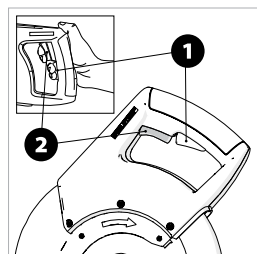

Fig. 22
SWITCHING ON & OFF (USA MODEL ONLY) (Fig. 22)
To start the machine, first push the lock-off button for the On/Off switch **(1)** and then press the On/Off switch **(2)** and keep it pressed. To switch off the machine, release the On/Off switch **(2)**. **(Fig. 22)**
Note: For safety reasons, the On/Off switch (2) cannot be locked; it must remain pressed during the entire operation. **(Fig. 22)**